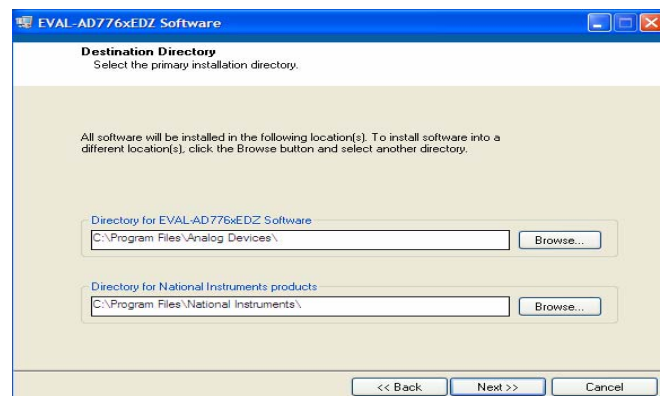

Figure 3. Choose the Destination of the AD7764/AD7765 Software
3. The destination directory can be chosen using the default clicking "Next" as shown in Figure 3). If a different location than the default is preferred, click **Browse** and select the desired location. When ready, click **Next**.